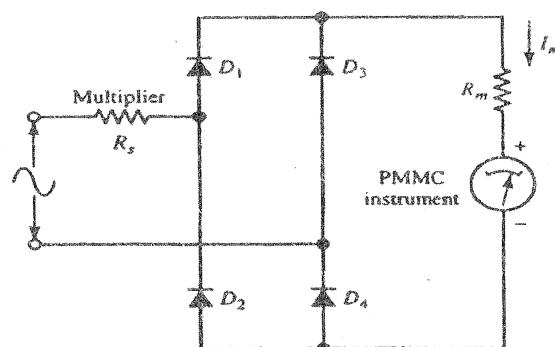

Figure Q3
- Q3 a) A permanent magnet moving coil (PMMC) instrument with Full Scale Deflection (FSD) = 100 μ A and $R_m = 1 \text{ k}\Omega$ is to be employed as a full wave rectifier ac voltmeter with FSD = 100 V_{rms} . Silicon diodes (voltage drop 0.7 V) are used in the bridge rectifier circuit in Figure Q3.